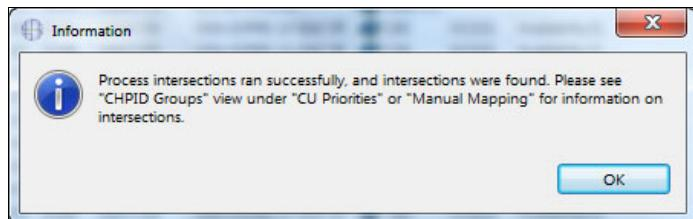

Figure 4-36 Process Intersections run successfully message
7. Click **OK** (Figure 4-36).